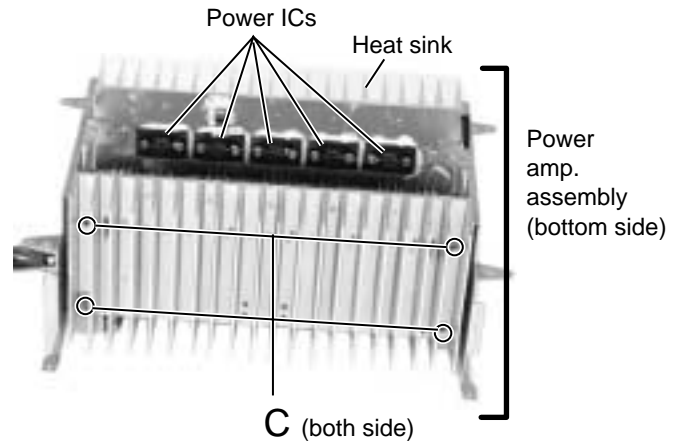

Fig.5
■ **Removing the heat sink (See Fig.5 to 7)**